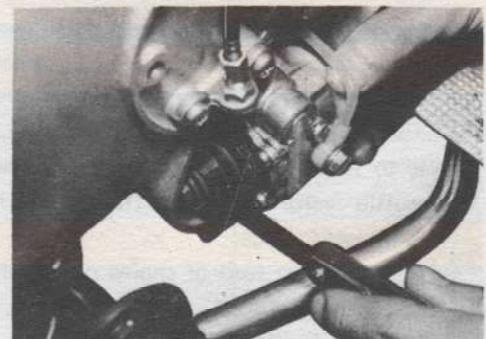

Fig. 2-3
- Using the adjusting shims, plunger stroke is set to  $0.20 \sim 0.25$  mm. (with the adjusting pulley at minimum delivery position). (Fig. 2-3)